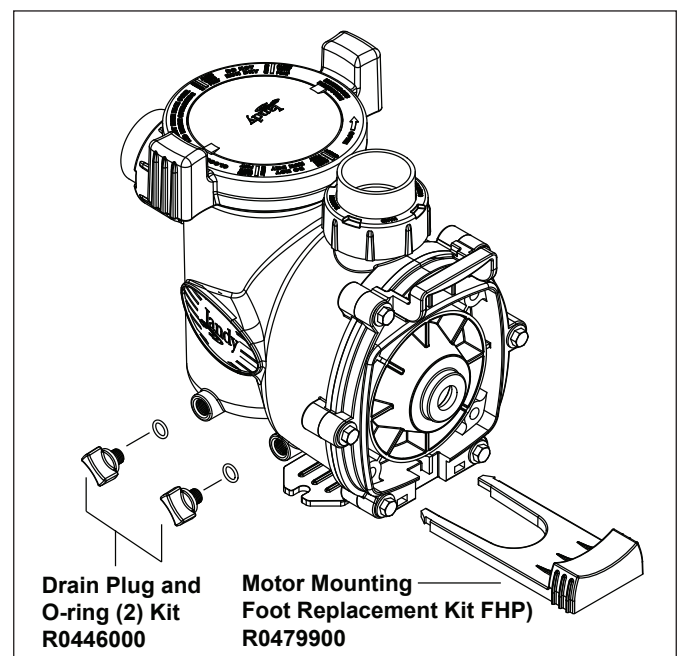

Figure 7. Drain Plug and Motor Mounting Foot Kit
- Refer to Figure 7 and the associated parts list to identify the parts in each replacement kit.